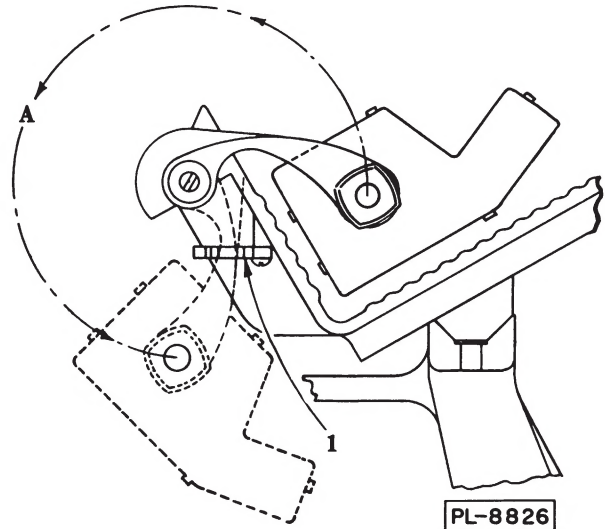

Fig. 3
5.2.2 Swing the grip around as shown by arrow and broken line (A, Fig. 3).
5.2.3 Rotate the grip into a position that allows it to nest in the grip retaining clip (1, Fig. 3).